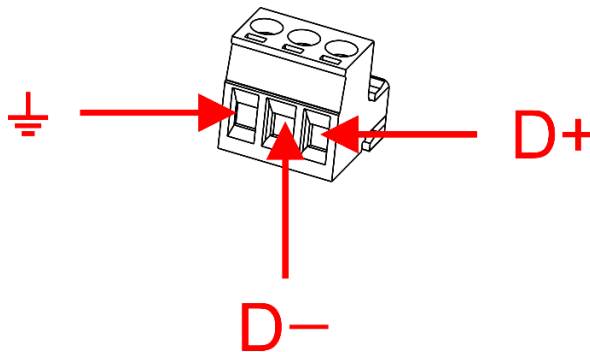

Fig. 12
- 02) Use a DMX cable to connect the DMX OUT connector of the lighting controller to the DMX IN connector of the first device. Insert the cables correctly. See Fig. 12.
- 03) Connect the first device's DMX THRU connector to the second device's DMX IN connector with a DMX cable. Insert the cables correctly. See Fig. 12.